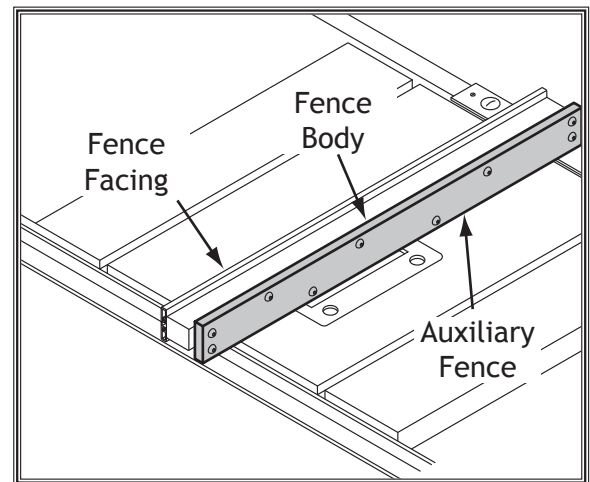

Figure 93. Example illustration of an auxiliary fence installed.
4. Use the mounting hardware you removed in **Step 2** to attach the auxiliary fence. The end result should be similar to **Figure 93**.